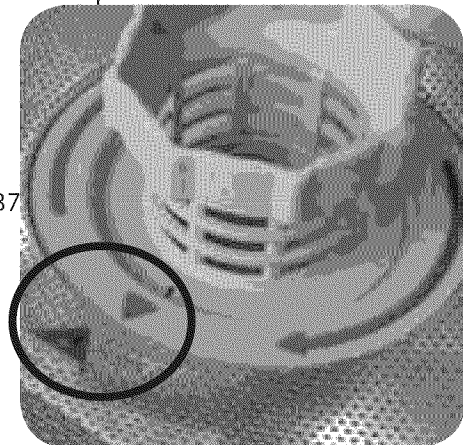

FIGURE 37
4. Turn the ring handle clockwise 1/4 turn until it is locked. The arrow on the ring handle and the arrow on the Fine Filter should point to each other, as shown by the circle in Figure 37.